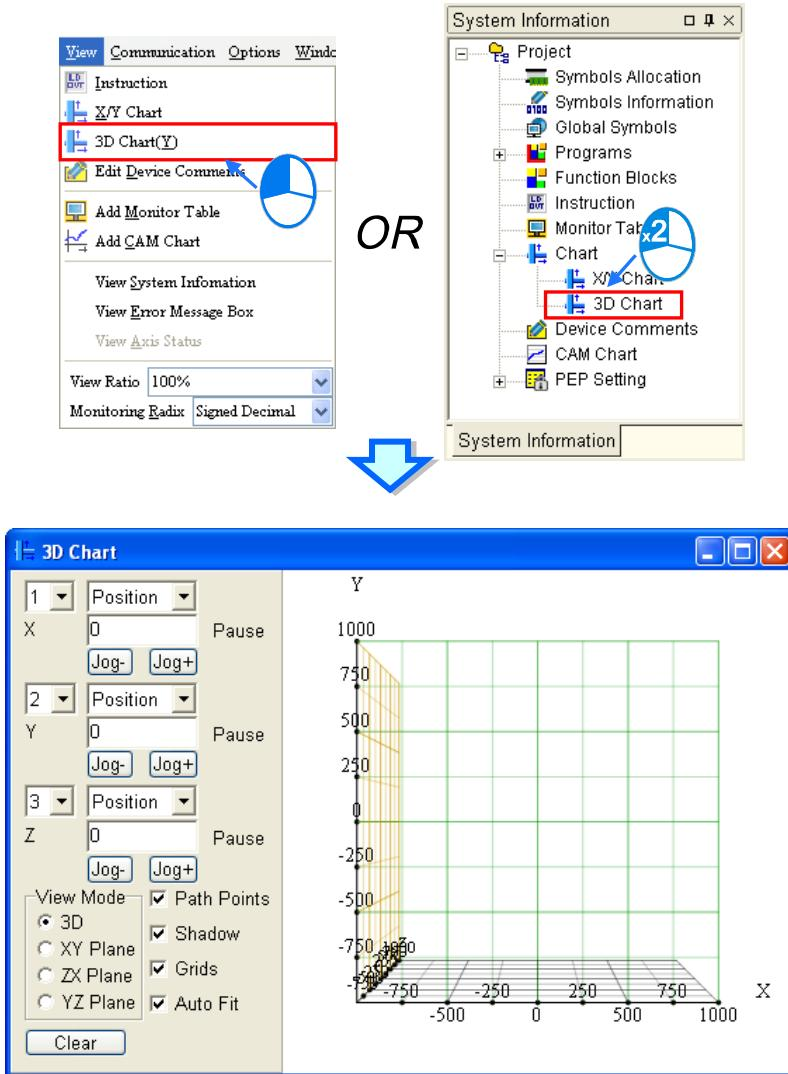

Figure 13-1 Opening the 3D Chart window
- (1) The users have to click **3D Chart** on the **View** menu, or double-click **3D Chart** in the system information area, as shown in figure 13-1.